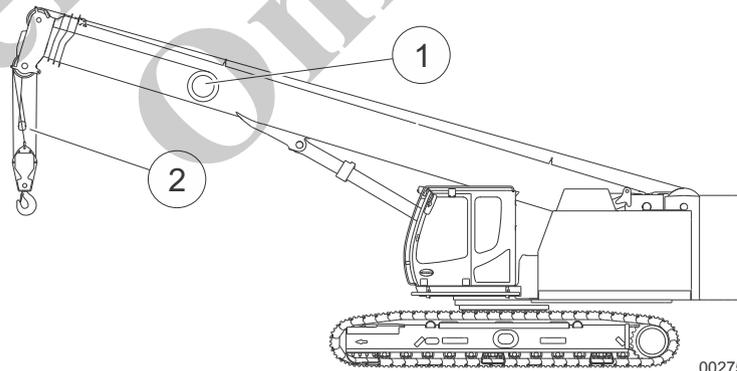

Fig. 71 Length and angle transmitter/spring cable drum
The length and angle transmitter (1) in Fig. 71 measures both the angle above the horizontal and the length of the telescopic boom. The cable of the cable drum transmits the measurement signals from the boom head to the LML.